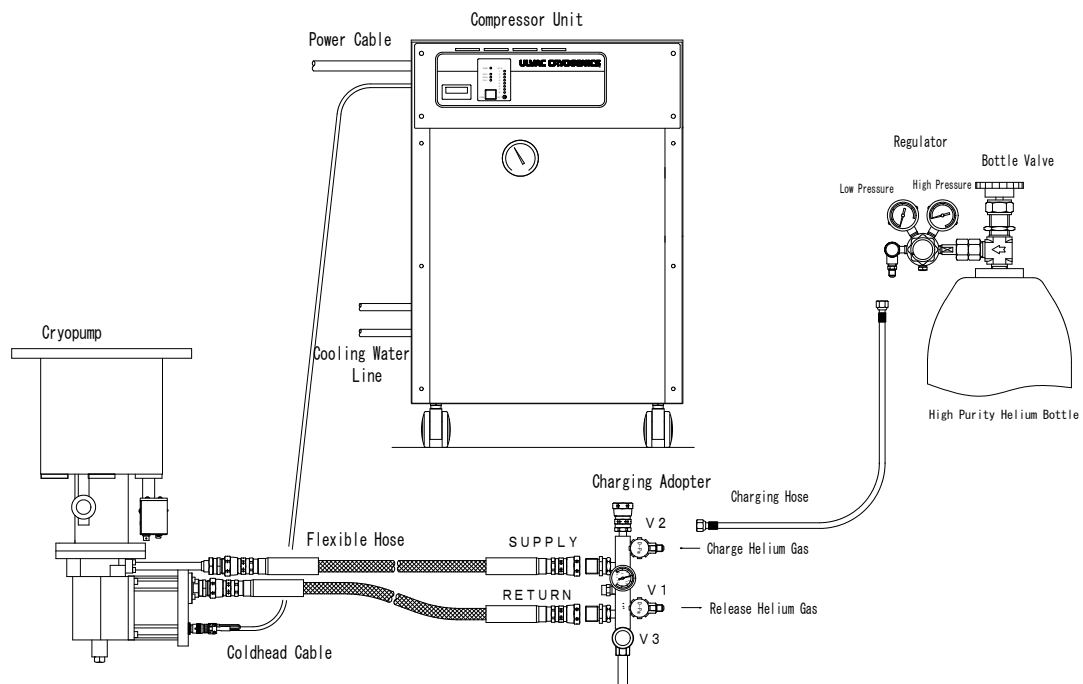

Figure 8-5 Cryopump Decontamination Procedure (2)
- g. Start the compressor unit to operate the refrigerator unit. When operating the refrigerator unit, the helium gas is circulated through the refrigerator, the flexible hoses, and the charging adopter. See Figure 8-5.